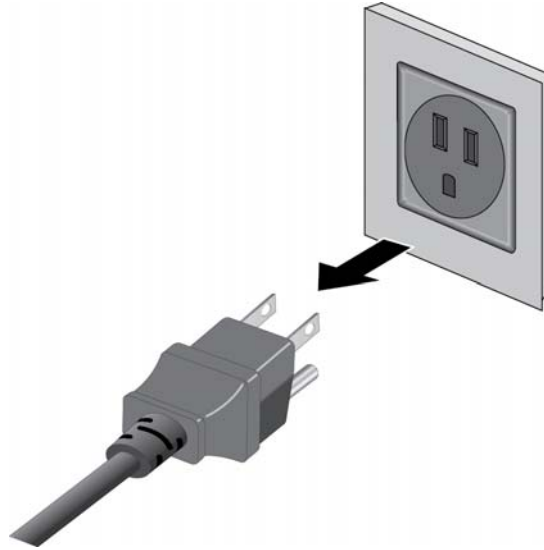

Figure 44. Disconnecting the Power Cord from an AC Power Source
7. Power off the switch by disconnecting the power cord from the power source. Refer to Figure 44 on page 90.